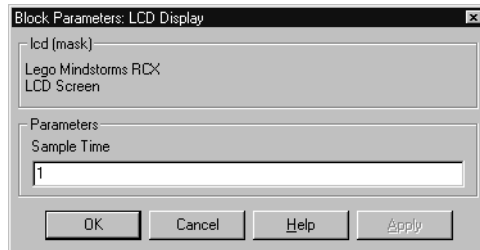

Figure 1-8: Mask Dialog for LCD Block
The LCD block is a masked S-function block, with one parameter, **Sample time**. The mask is shown in Figure 1-8.
- Create a masked S-function block, using the Touch Sensor block as a model. The mask should look like Figure 1-8.